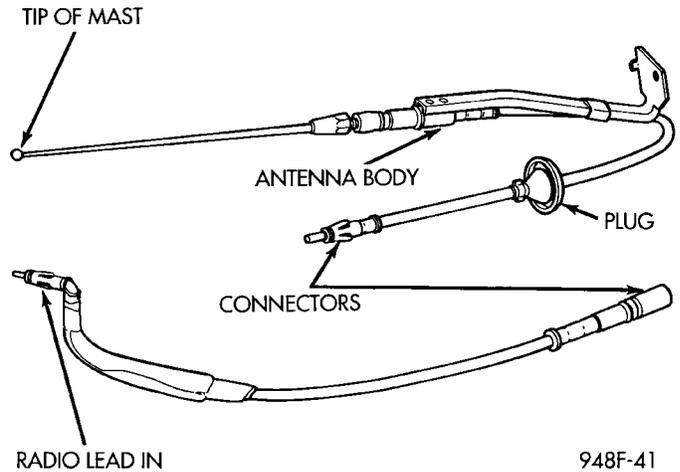

Fig. 2 Antenna Bench Test Points
- (1) Continuity should be present between the tip of the mast and radio lead in (Fig. 2).
- (2) No continuity should be observed or a very high resistance of several megohms between the ground shell of the connector and radio end pin.
- (3) Continuity should be observed between the ground shell of the connector and the mounting